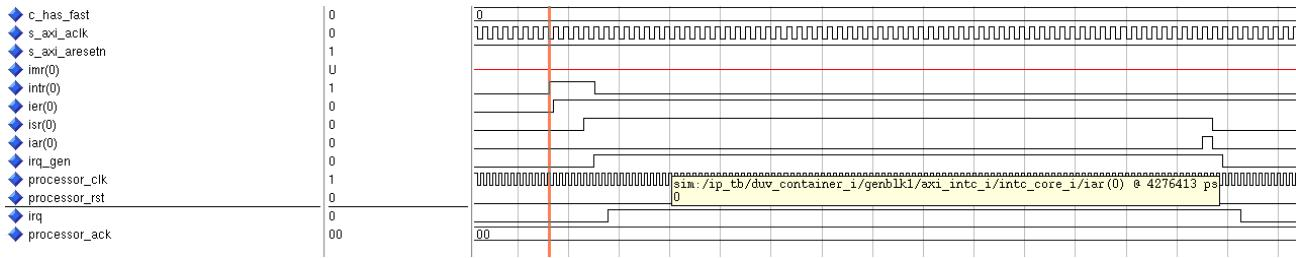

Figure 3-3: Input Intr - Edge Sensitive (Rising), Output IRQ - Level Sensitive (High), C_HAS_FAST = 0
- Configured Input Interrupt (Intr) for Edge sensitive (rising), Output Interrupt Request (Irq) to Level sensitive (active-High), disabled fast interrupt logic (C_HAS_FAST = 0). Timing diagram is shown in Figure 3-3.